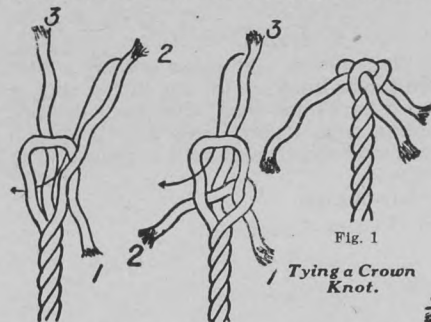

Fig. 1
To make a crown knot, (fig. 1) bring strand (1) down between strands (2) and (3), pass strand (2) across the loop as shown and pass strand (3) through the loop. Then pull each strand until they are all tight.